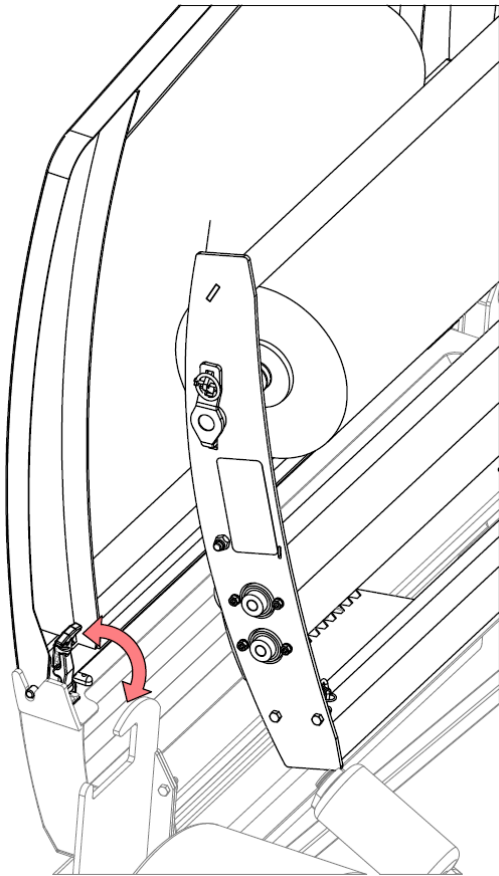

Fig.2
3. Unfasten rubber latch from inner rear of left safety guard. See Fig.2.
1. Look at decals on front of wrapper for bale saddle position. See Fig.2.